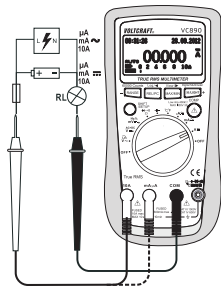

Fig. 3
3. Insert the red test lead in the mA $\mu\text{A}$  or 10A measuring socket (5, 6). Insert the black test lead in the COM measuring socket (8) (Fig. 3).